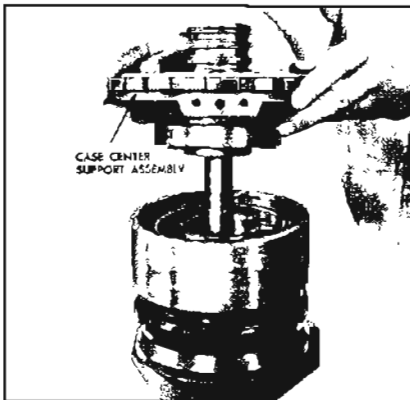

Figure 5-554
1. Remove the case center support assembly. See Figure 5-554.